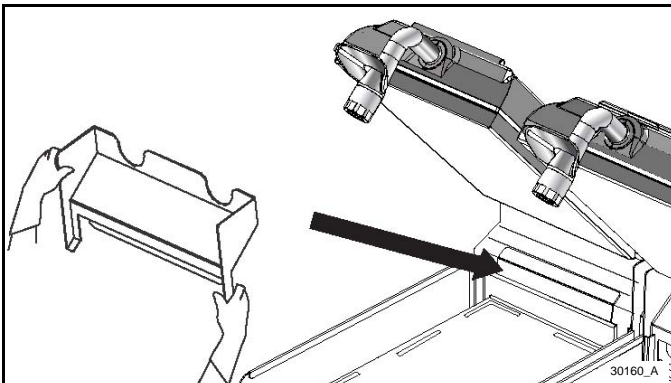

Figure-168
40. Reinstall the rear grease guard. See Figure-168.